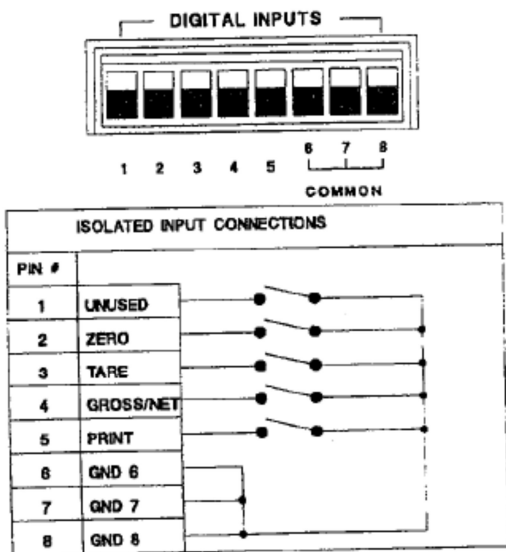

Figure 2-10. Remote Digital Inputs.
Certain front panel key functions can be initiated remotely using the rear panel digital inputs. Figure 2-10 gives wiring designations for remote operation of the ZERO, TARE, Gross/Net (GN), and PRINT keys. Interconnecting wire/cable length should not exceed 50 feet. Route wires/cable away from ac power lines and other EMI sources to prevent interference.